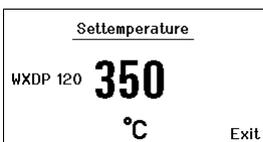

Fig. 13
1. Press the required selection key 6 or 16. The current set-point temperature is shown on the display (see Fig. 13).
2. Set the required set-point temperature with the turn-and-click wheel (7).
3. Confirm the value with the Enter key (8).